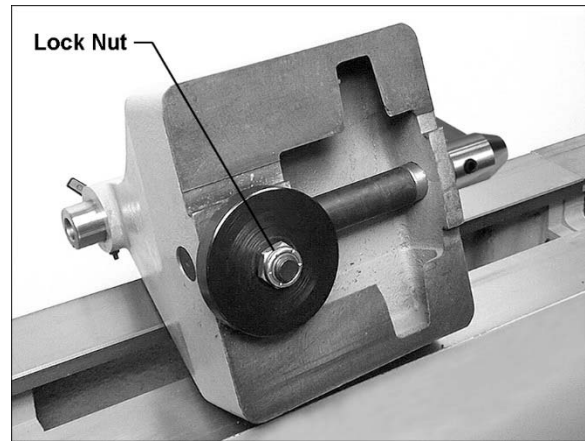

Figure 8-2: cam adjustment
If headstock, tailstock or tool rest base does not properly tighten down against bed when the locking handle is tightened, adjust as follows. Figure 8-2 uses tailstock as example.
2. Turn tailstock on its side, and tighten lock nut with a wrench. See Figure 8-2.